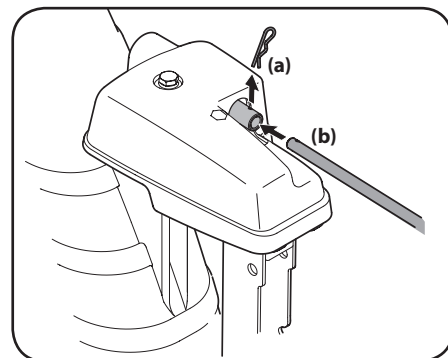

Figure 2-33
5. Remove the cotter pin (a) and insert the chute crank rod (b) into the connector on the chute control assembly. See Figure 2-33.